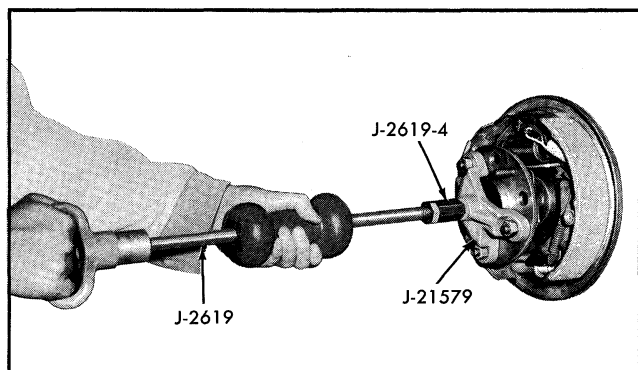

Fig. 4-10 Removing Axle Shaft
4. Pull out axle shaft assemblies using puller J-21579 and adapter J-2619-4 with a slide hammer J-2619, see Fig. 4-10.